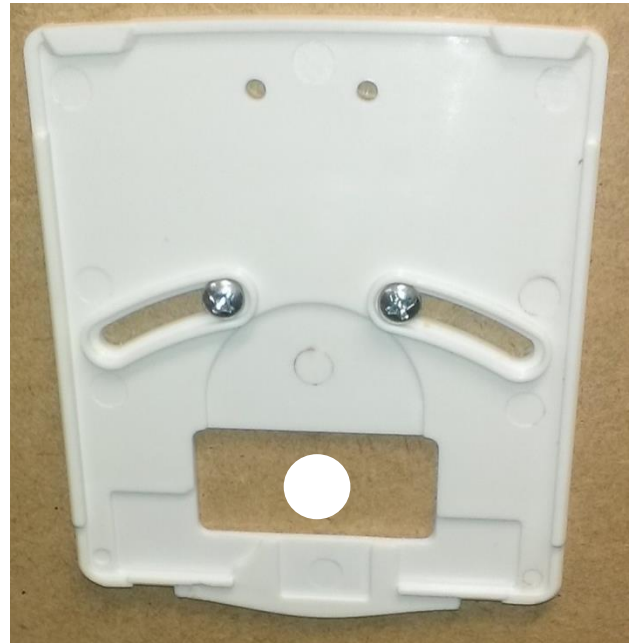

Figure 8-Screw the rear cover to the wall and feed cable through
- Drill a 13mm hole into the wall as shown in Figure 8